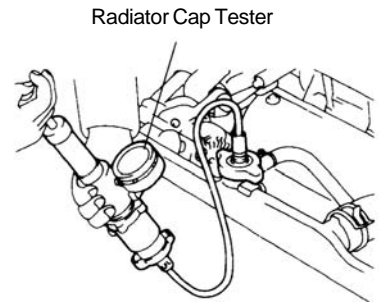

Figure 118
1. Check the cooling system for leakage. See (Figure 118)